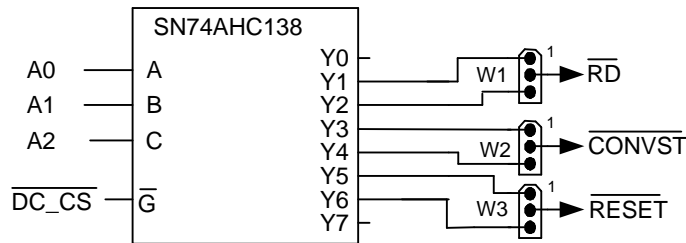

Figure 2. Decoding Control Signals Using the Address Bus
For the software engineer the ADS8401/ADS8405/ADS8411EVM provides a simple platform for interfacing to the converter. The EVM provides standard 0.1 inch headers and sockets to wire into prototype boards. The user need only provide in 3 address lines (A2, A1, A0) and address valid line DC_CS to connector P2, as shown in Figure 2. To choose which address combinations will generate RD, CONVST, and RESET set jumpers as shown in Table 4. Recall chip select (CS) signal is not memory mapped or wired to P2, therefore it must be controlled via general purpose pin or shorted to ground at J3 pin 1. If address decoding is not required, the EVM provides direct access to converter data bus and control I/O via connectors P3 and J3, respectively.